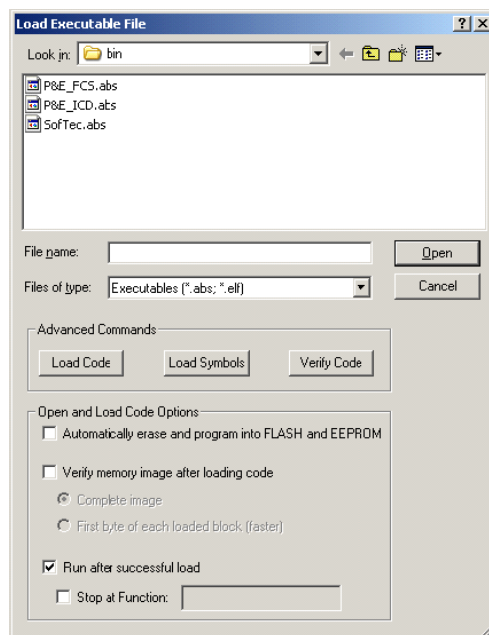

Figure 14. load executable file dialog box
- When the load command is executed, the "Load Executable File" dialog box opens as shown in Figure 14.